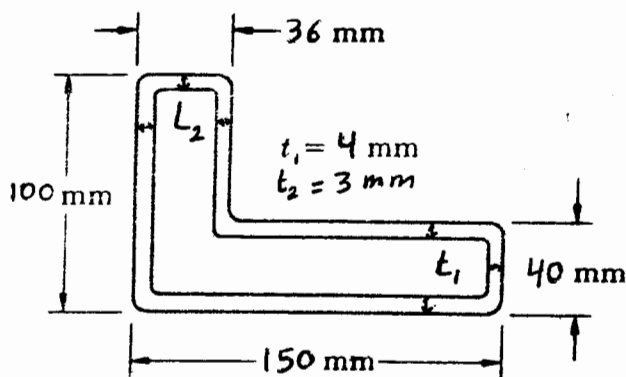

Fig P1
- 1) A torque T is applied to a 4-m long shaft which has the cross-section shown in Fig. P1. If the allowable shear stress is 50 MPa, and if the angle of twist is limited to 0.003 rad, **determine the maximum torque T** that can safely be applied. $G = 40$ GPa. [Sec. 5.7] (20 pts.)